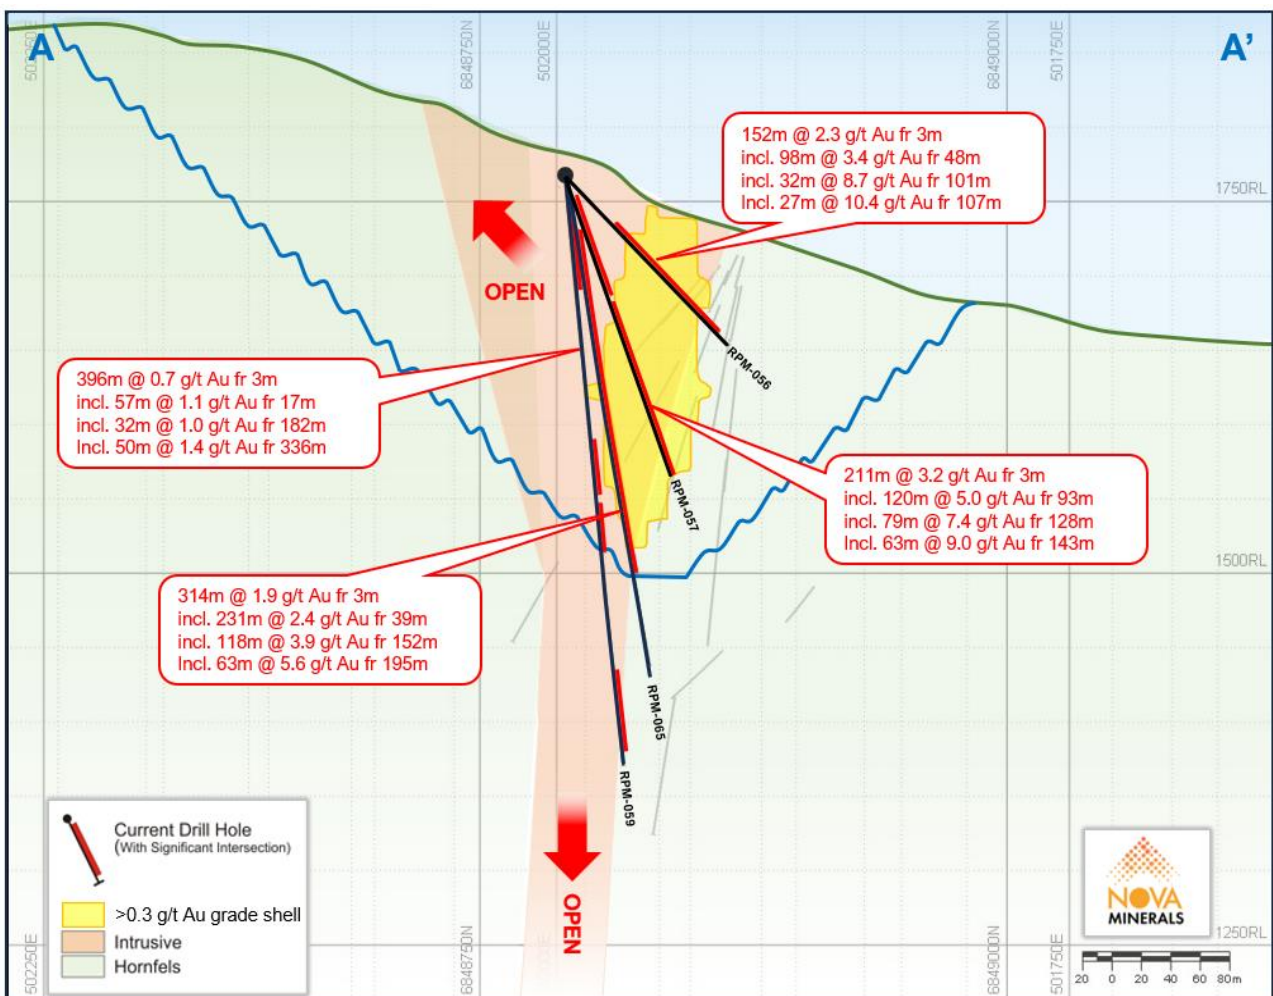

Figure 1. RPM North Section A-A'_315azi showing continuity of mineralization
- Exceptional high-grade gold intersections continue at RPM North and mineralization remains open. Significant results include (Table 1 and Figures 1 and 2):
These latest results continue to prove up areas of thick intervals of high-grade gold mineralization (+2g/t) within the existing RPM North resource area, confirming the continuity of the high-grade bonanza core zone, as well as indicating the potential for significant extensions to the existing resource. A representative cross-section (Figure 1) clearly shows the latest drill holes intersecting up and down dip continuity to mineralization outside of the current resource grade shell. This has the potential to significantly grow the resource in the upcoming MRE update.